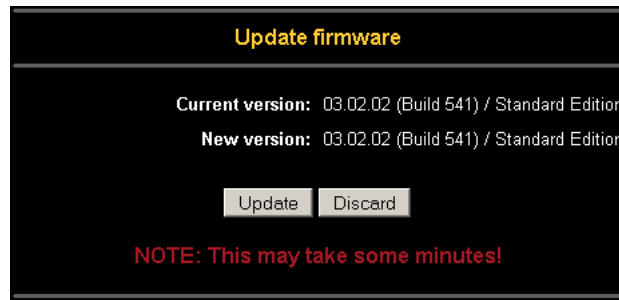

Figure 5.33: Panel to update a new firmware that was previously uploaded
- Secondly, if everything went well, you see the Update Firmware panel (see Figure 5.33 on the following page). The panel shows you the version number of the currently running firmware and the version number of the uploaded firmware. Pressing the update button will store the new version over the old one. Attention: this process is not reversible and might take some minutes. Make sure the RAS-PutIn's power supply won't be interrupted during the update process, because this may cause an unusable device.